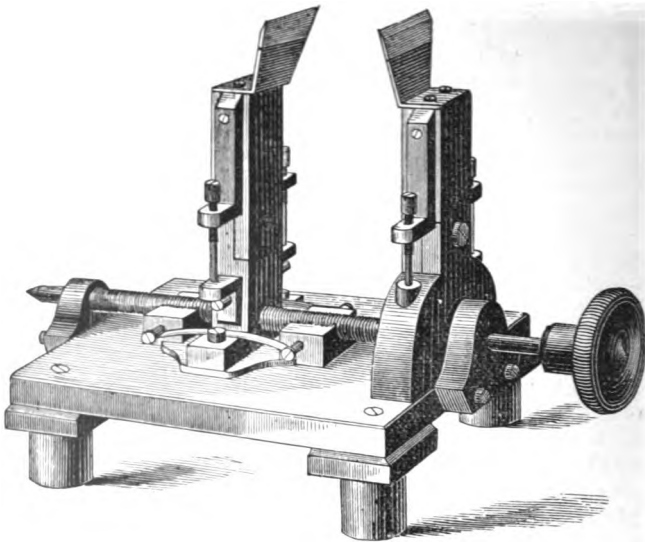

Fig. 1.
**Poising Tool.**—[*Outil à équilibrer.*—*Die Balancewaage.*]—A tool for ascertaining if the metal in a watch or chronometer balance is evenly disposed round the axis. In the opinion of many testing in the callipers does not afford a sufficiently exact indication of the truth of a compensation balance for fine work, and recourse is had to a special tool, of which the one in the drawing (Fig. 1) by Mr. R. Bridgman, is a very fine example. The movable standard is kept in contact with the bed of the tool by springs, so as to be independent of the truth or otherwise of the traversing screw. The pivots of the balance rest on knife edges formed of sapphire, which may be adjusted to the desired distance by means of a screw. Screws on each side of